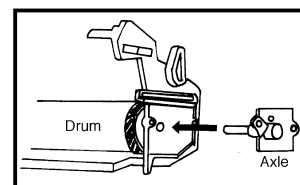

Figure 5
- Remove the primary charge roller (PCR)- Fig. 5. Apply Anakenesis® PCR cleaner to a clean, lint-free cloth and wiper the length of the PCR until all residue is removed from the surface of the PCR. **NOTE:** Use alcohol and cotton swabs to clean the black conductive "C" clips and springs. Clean all electrical contacts.